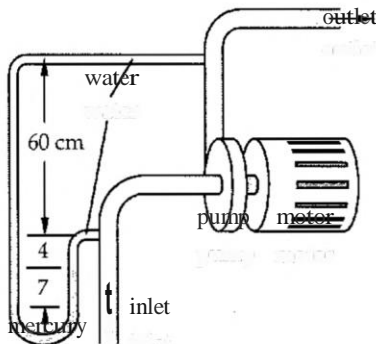

FIGURE P2.25
25. A manometer containing mercury is used to measure the pressure increase experienced by a water pump as shown in Figure P2.25. Calculate the pressure rise if Ah is 7 cm of mercury (as shown). All dimensions are in cm.